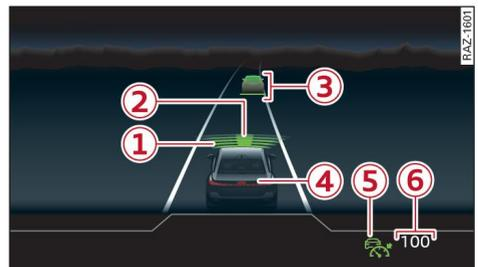

Fig. 96 Instrument cluster: Overview of displays
- ▶ Press the **SET** button ②. The set speed will be shown ⑥ ⇒ page 170, Fig. 96.
is displayed and the graphic  in front of the vehicle  goes out ⇒ *page 170, Fig. 96*.
The distance regulating function is not active.  is displayed and the graphic  in front of the vehicle  goes out ⇒ *page 170, Fig. 96*.